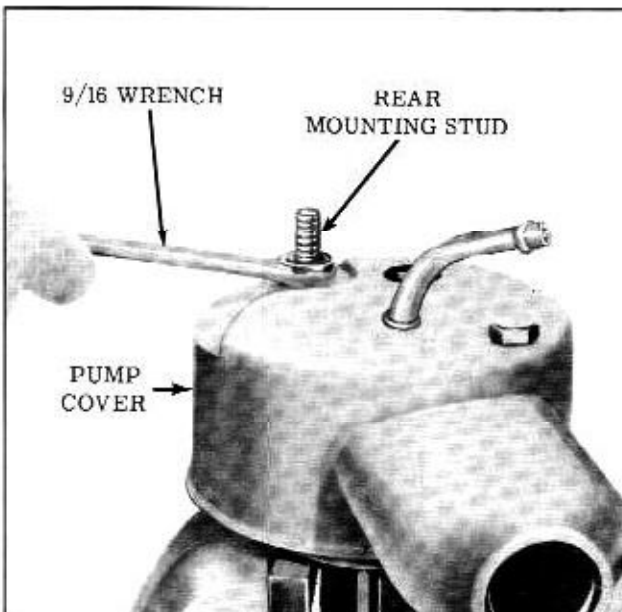

Fig. 4-50 Removing Reservoir
2. Remove pump rear mounting studs. (Fig. 4-50)